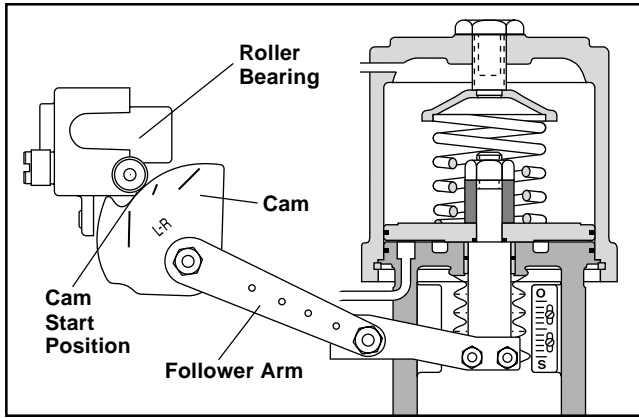

Figure 4: Cam Alignment
7. Feed the follower pin into the appropriate slot in the take-off arm. (See Figure 4.) Tighten the nut on the pin and grease the slot where the pin rides.
cam roller-bearing when the valve is seated. (See Figure 4.) Tighten the stem clamp.